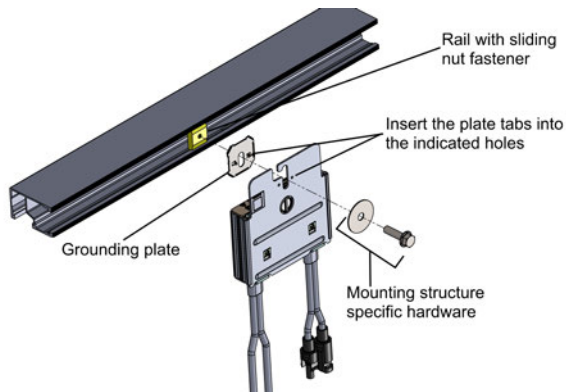

Figure 6: Power optimizer installation and grounding using a grounding plate
- For mounting on rails with sliding nut fasteners:** If the star washer cannot be used, use the SolarEdge grounding plate (purchased separately) between the railing and the flat side of the mounting bracket. Use mounting specific hardware as needed. Apply torque of 9.5 N*m / 7 lb*ft. See *Figure 6*.